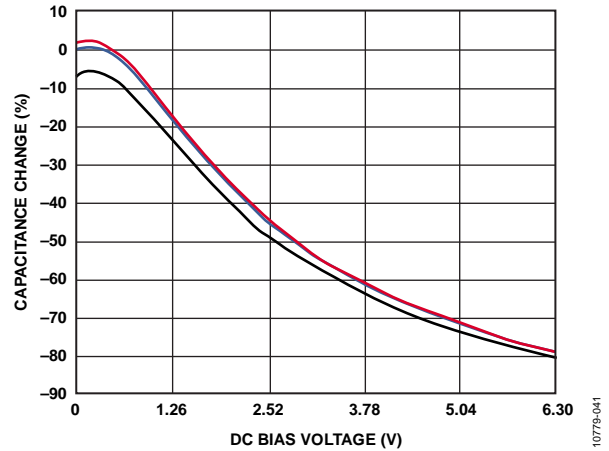

Figure 41. DC Bias Characteristic of a 6.3 V, 10 μF Ceramic Capacitor
- C_{OUT} at $V_{OUT}(\text{max}) = 5\text{ V}$, is 3 μF , as shown in Figure 41.